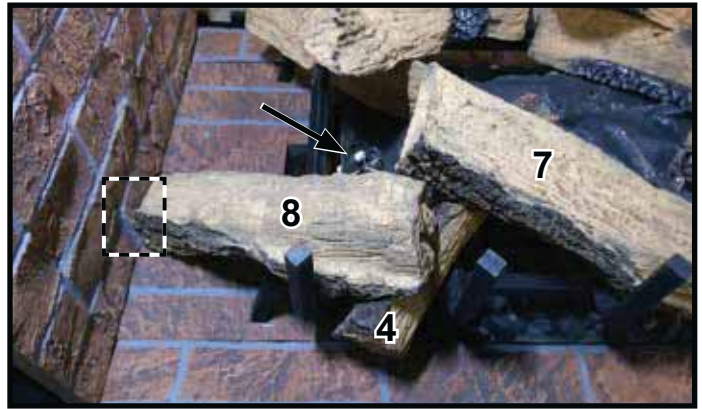

Figure 17. Log #8 from front.
**LOG NUMBER 8 (SRV2272-707):** Note that Logs #7 and #8 are identical to each other. Place Log #8 on top of Log #4, resting on the far left grate tine and the outside brick panels as shown in Figure 17. The end of the log should align with the mortar joint in the brick refractory. Pull Log #7 back slightly to secure Log #8 against the grate tine. The "burnt" side of the log will face in toward the burner. Care should be taken not to place the log where it will restrict the function of the accent lights.